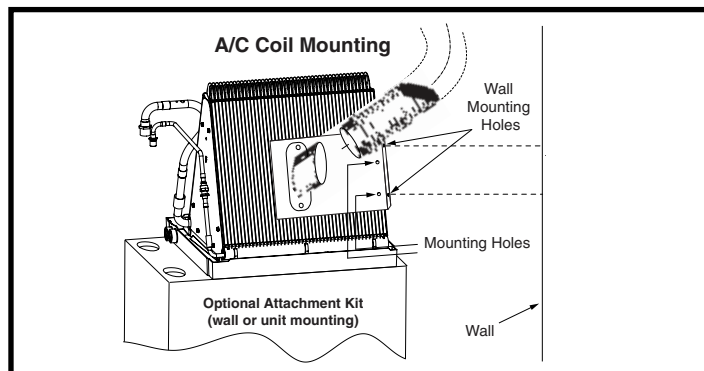

Figure 2. Downflow Electric Furnace with A/C
- NOTE:** An optional VentilAire™ attachment kit (P/N 919328) may be purchased to attach the plastic inlet fitting to the coil or wall in Heat/Cool and Heat only (no coil) applications. This bulk kit is supplied with 24 brackets and fasteners. The plastic inlet fitting snaps into the bracket opening without screws. See Figure 2.
- **Electric Furnace with Nortek A/C coil** - Align and fasten the VentilAire™ attachment bracket with the holes of the coil end-plate flange. See Figure 2.
- **Electric Furnace with non-Nortek A/C coil** - When using other brands of coils, the installer has the option to attach the bracket to the wall of the furnace cavity. Fastening must penetrate into a framing member or sheetrock anchors. See Figure 2.